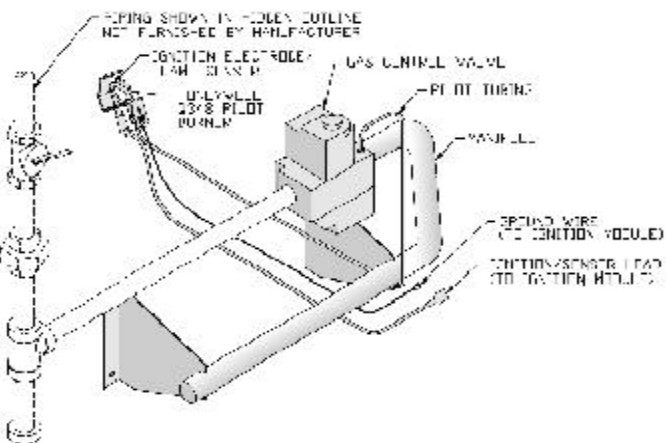

Figure 13: Schematic Pilot and Gas Piping
G. Check gas piping and connections between Gas Valve and Manifold, Orifices and Pilot Tubing. Use soap solution or other approved method. See Figure 13.